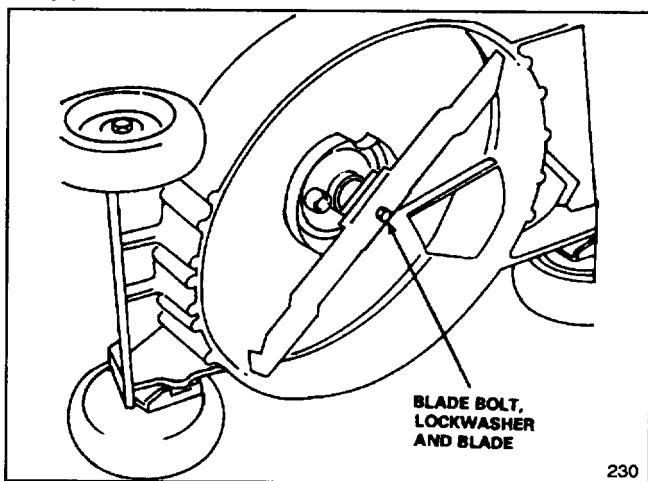

Figure 19
3. Tip mower on its right side (Fig. 19). Avoid rotating the blade because starting problems may result.
5. REMOVING BLADE—Grasp end of blade using a rag or thickly padded glove. Remove blade bolt, lockwasher, and blade (Fig. 19).